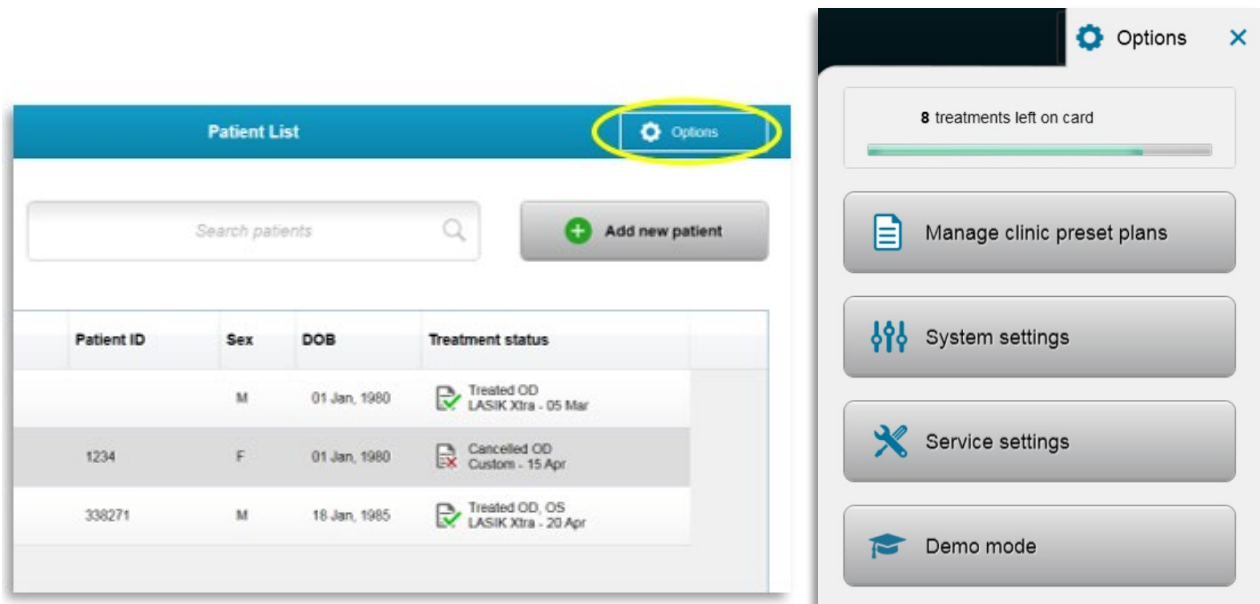

Figure 3-50. Press the “Options” button
- From the Patient List homescreen, press the “Options” button to display the 4 Options menus, as shown in Figures 3-50.